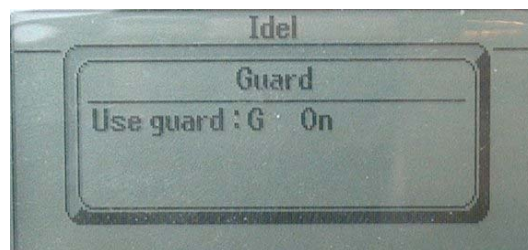

Fig .15. Guard display
- b. Select *Guard* and press *Enter*. Fig. 15.